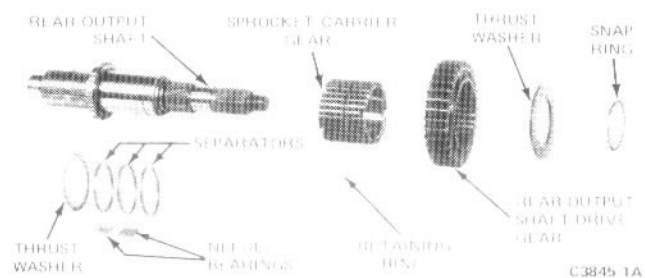

FIG. 19 Rear Output Shaft Assembly
20. On the rear output shaft, remove the snap ring and thrust washer retaining the chain drive sprocket to the output shaft, and slide the sprocket from the drive gear (Fig. 19).